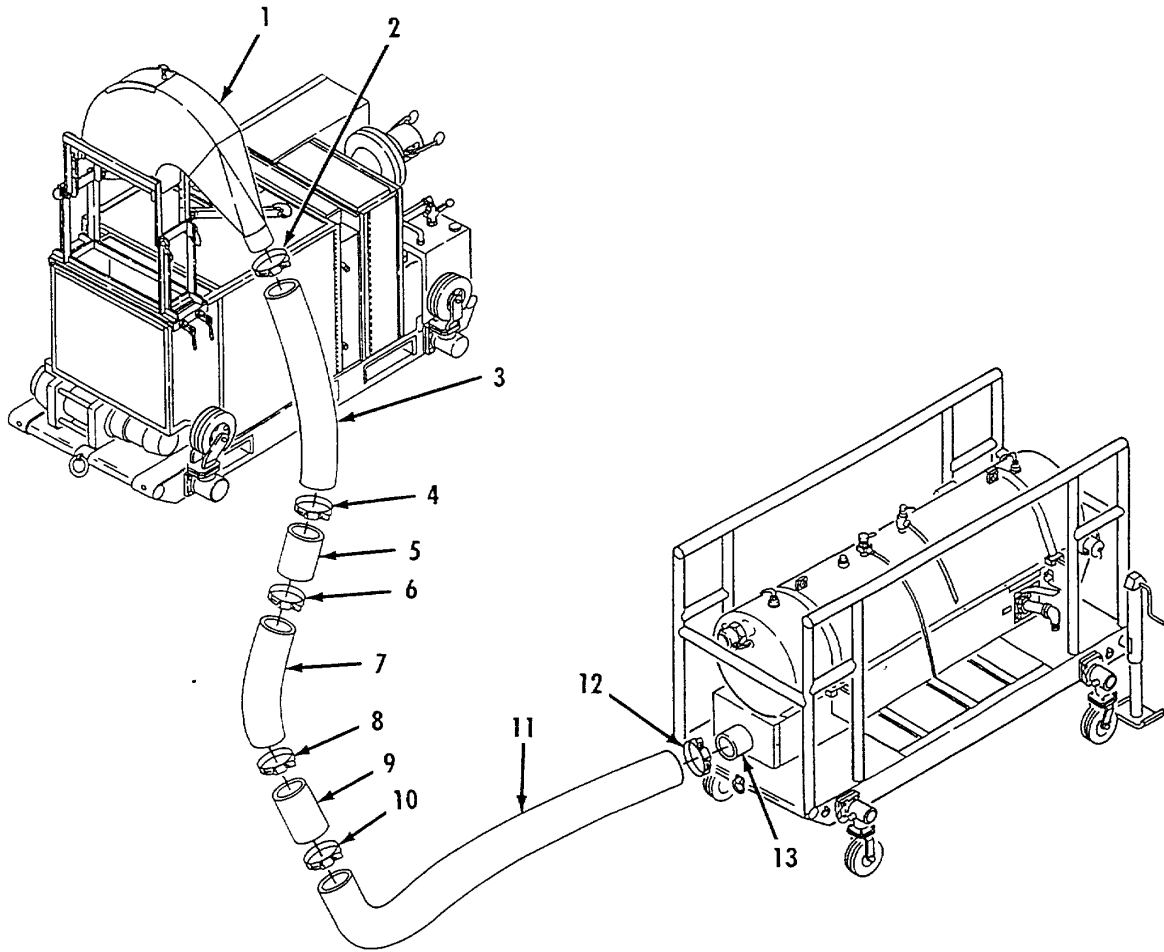
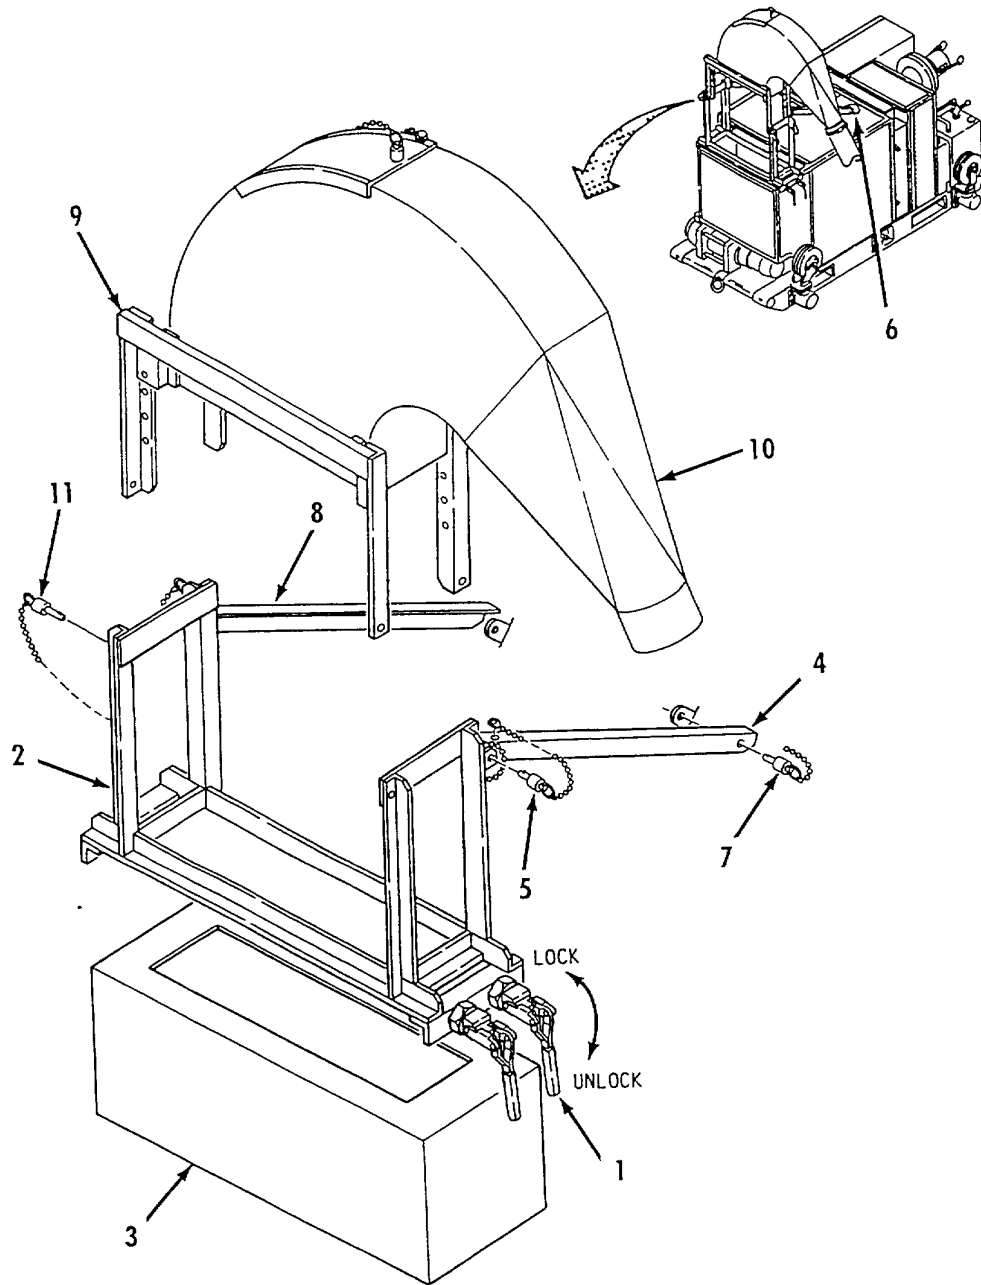

Figure 2-26. Air Duct Removal.
Figure 2-27. Deflector Removal.
- f. Remove Air Ducts. Refer to figure 2-26.
- (1) Loosen clamp (12).
- (2) Slide end of air duct (11) off defrost shroud of filter separator (13).
- (3) Remove clamp (12) from air duct (11).
- (4) Loosen clamps (8 and 10).
- (5) Slide ends of air ducts (7 and 11) off of coupler (9).
- (6) Remove clamp (10) from air duct (11).
- (7) Remove clamp (8) from air duct (7).
- (8) Loosen clamps (4 and 6).
- (9) Slide ends of air ducts (3 and 7) off of coupler (5).
- (10) Remove clamp (6) from air duct (7).
- (11) Remove clamp (4) from air duct (3).
- (12) Loosen clamp (2) and slide air duct (3) off of deflector (1).
- (13) Remove clamp (2) from air duct (3).
- g. Remove Deflector. Refer to figure 2-27.
- (1) Remove four pins (11) and lift upper frame (9) and attached deflector (10) from lower frame (2).
- (2) Remove pins (7) from mount (6) on 200 GPM pump.
- (3) Remove pins (5) and brace (4) Repeat for other brace (8).
- (4) Repeat steps (2) and (3) for other brace (8).
- (5) Lower locator arms (1) on lower frame (2) to unlock position.
- (6) Remove lower frame (2) from exhaust extension (3) on 200 GPM pump.
- (7) Stow deflector components in storage box as shown on loading plan.